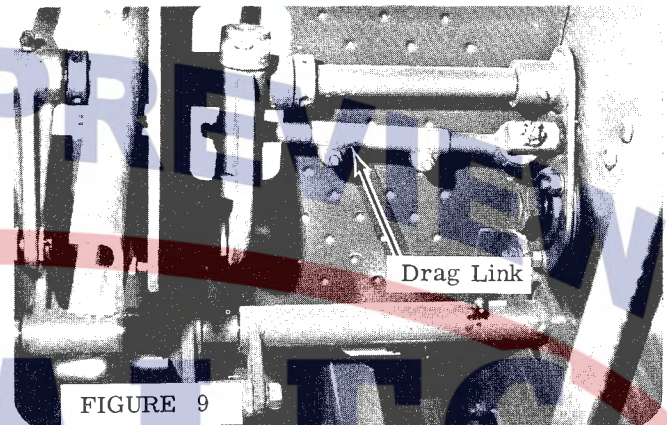

FIGURE 9
2. Adjust drag link (under operator's platform) so that the steering lever is straight up and down when shifter belts are in equal diameter over trim steering drive sheaves. (See Figure 9.)